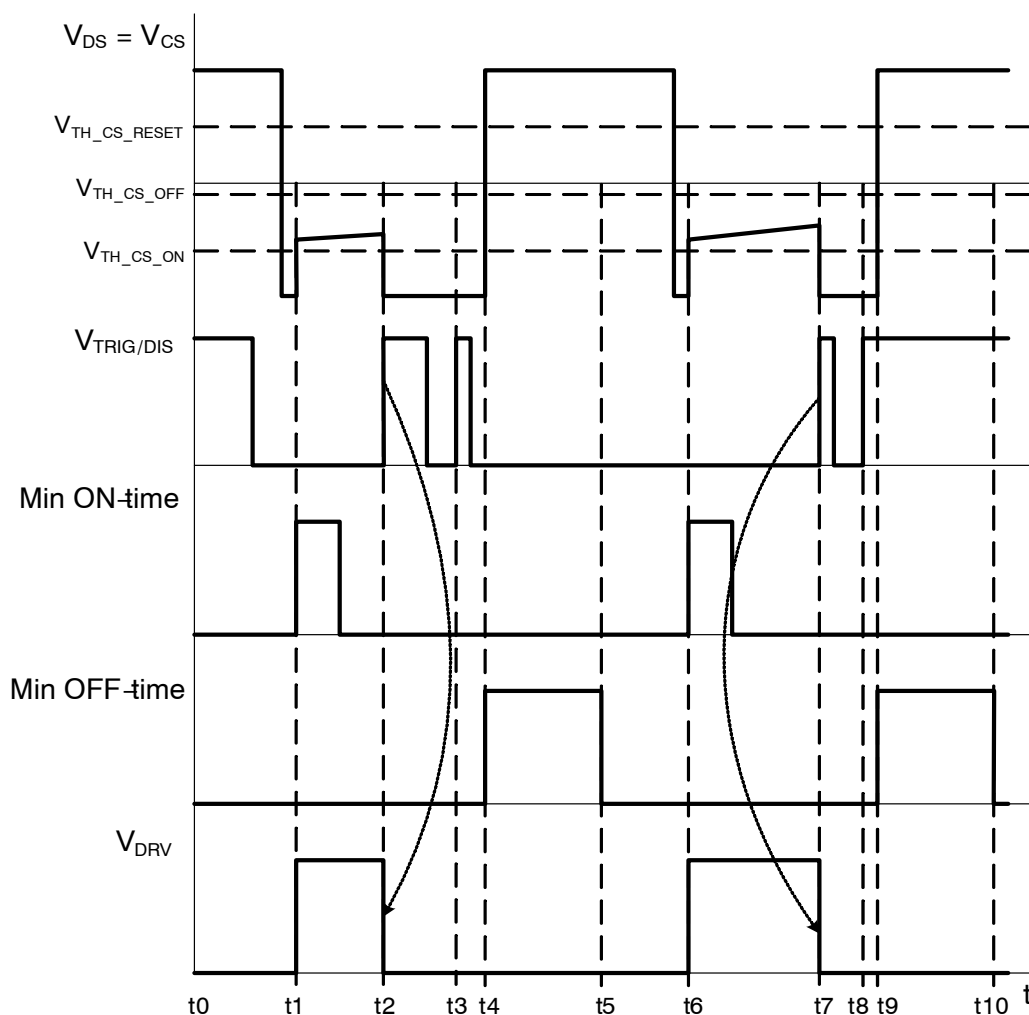

Figure 57. Trigger Input Functionality Waveforms – Two Pulses at One Cycle
Figure 57 shows IC behavior in case the trigger signal features two pulses during one cycle of the V_{DS} (CS) signal. The trigger goes low enables the DRV just before time t_1 and DRV turns-on because the V_{DS} voltage drops under $V_{TH_CS_ON}$ threshold voltage. The trigger signal disables driver at time t_2 . The trigger drops down to LOW level in time t_3 , but IC waits for complete minimum off-time. Minimum off-time execution is blocked until CS pin voltage